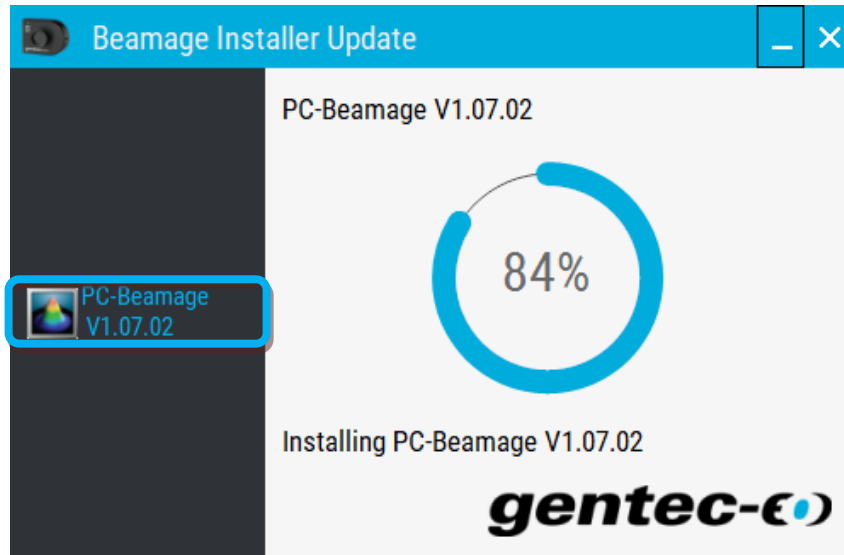

Figure F-3 PC-Beamage Install Button
- 4) Click on the “PC-Beamage VX.XX.XX” button to install the new version, see Figure F-3